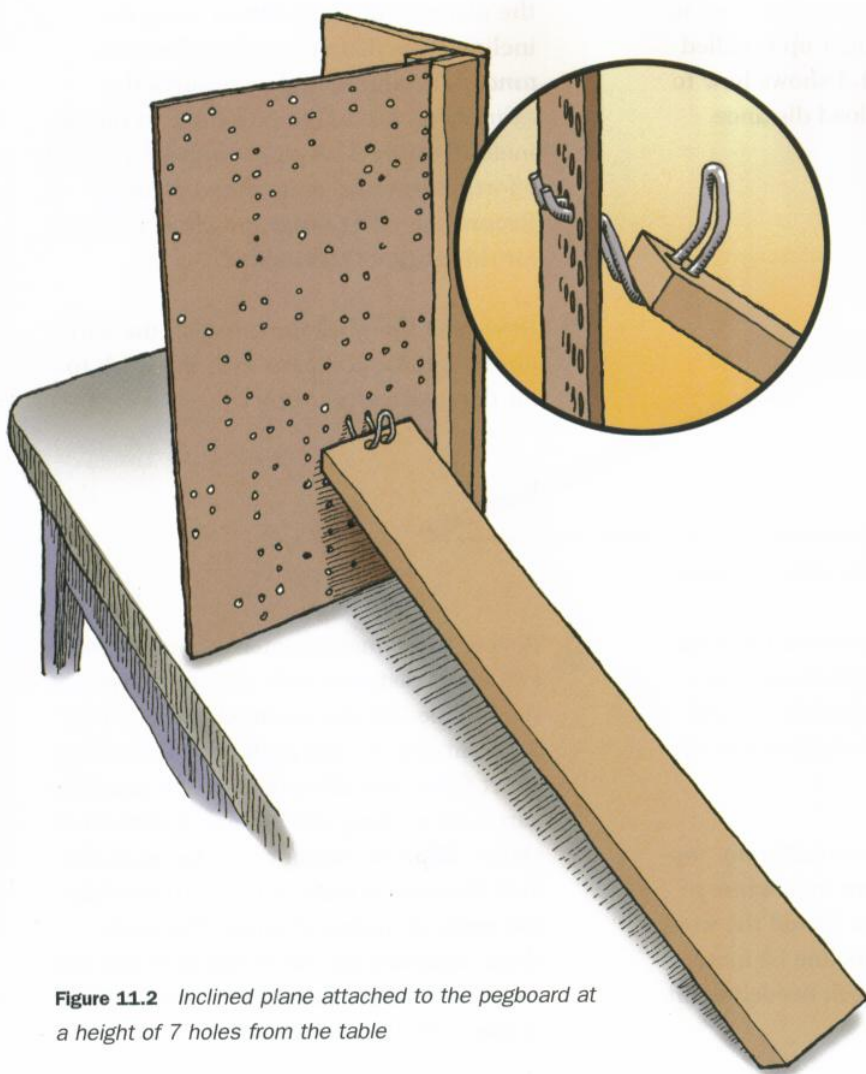

Figure 11.2 Inclined plane attached to the pegboard at a height of 7 holes from the table
- Using the double loop hook, attach the inclined plane to the pegboard, as shown in Figure 11.2. Now place the cart on the inclined plane. Measure and record the force required to hold the cart on the plane. What creates the force on the cart on the inclined plane?
7. Suppose you pulled the cart up an inclined plane like the one shown in Figure 11.2. How do you think the effort force needed to pull the cart up the incline at a slow, steady speed would compare with the effort force needed to move the sled across the table? Explain your reasoning.